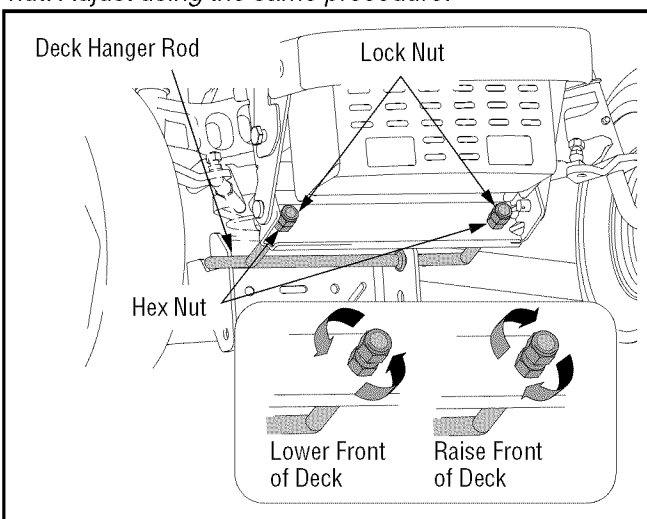

Figure 10
- From the front of the tractor, loosen the hex lock nut on each end of the deck hanger rod, and turn away from the inner hex nuts. See Figure 10
- Tighten the inner hex nuts front against the front hanger bracket to raise the front of the deck; loosen the hex nuts to lower the front of the deck. See Figure 10.